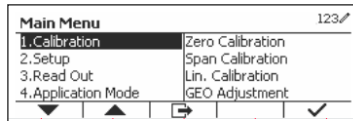

Figure 14
- Long press the  button to enter Main Menu. (See Figure 14)